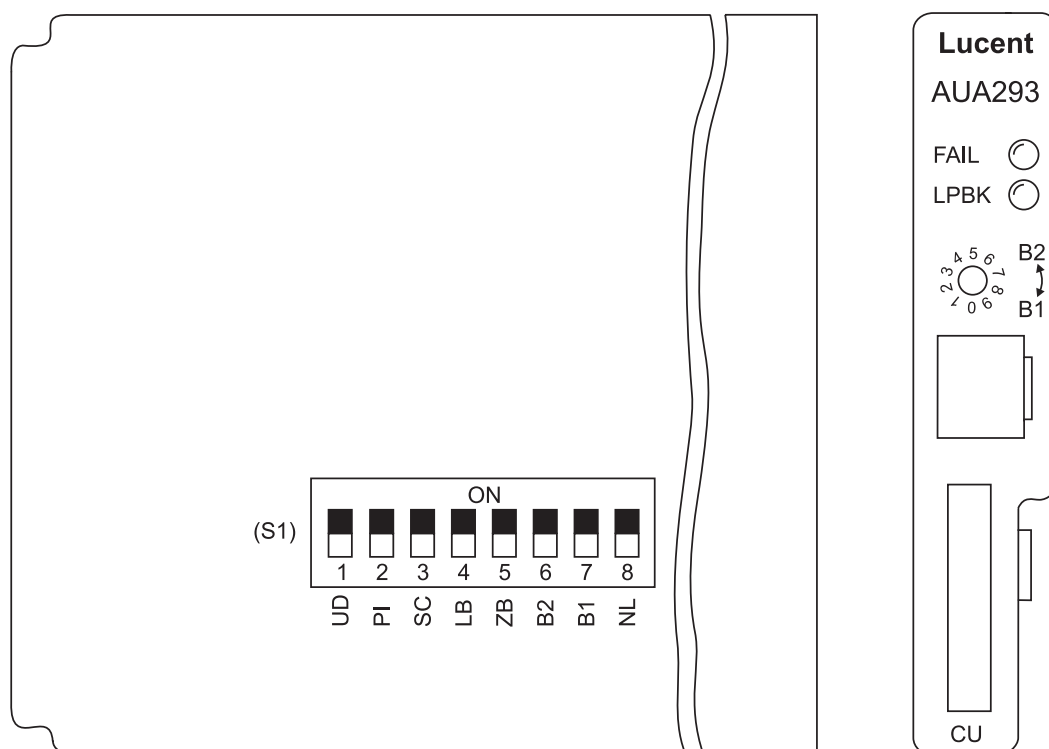

Figure 11 – AUA293 Channel Unit Option Switch Location
58. Set option switches (Figure 11) located on **S1** as specified on the WORD document. Refer to Table C for a list of option switch settings.